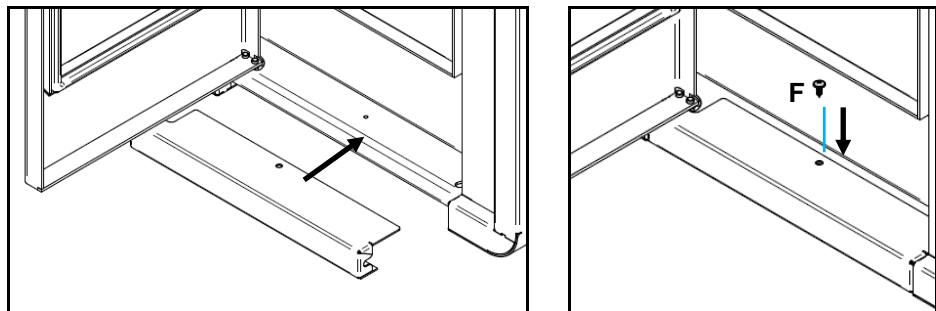

Figure 46 - Fixation of the lower cap of the Olive
- I) To finalize, mount the bottom cap of the equipment as shown in Figure 46, open the door and fit the lower cap piece on the base of the equipment, matching the drilling of the part with that of the equipment and then assemble it with a F screw (DIN 7981 4,2x13) or screw (ISO 3780 M5x12).